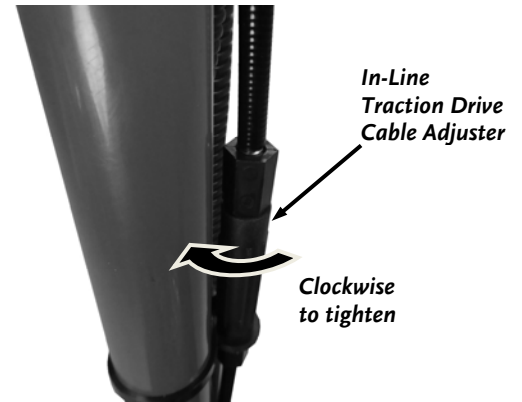

Figure 10
**Note:** If the Traction Control Cable is too difficult to install even when using the Screwdriver, it may help to extend the Cable by turning the Adjuster shown in Figure 10. It will need to be turned counterclockwise (opposite as shown). Remember to adjust properly as described in step 10 after Cable is fully installed.
10. Turn the Traction Drive Cable Adjuster clockwise (looking from top) to extend the adjuster to tighten the Cable (**Figure 10**). Only tighten enough so the Lever rests lightly against the Bracket with no gap (play) between.